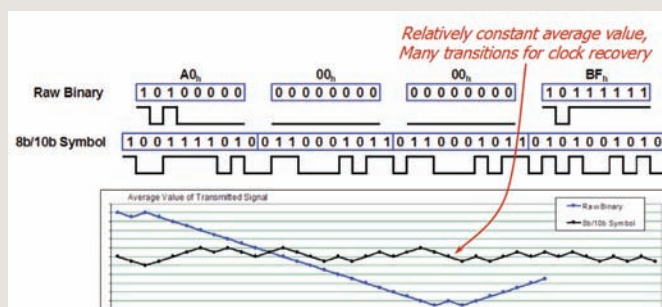

Figure 10. 8b/10b coding maintains DC level and ensures clock recovery.
8b/10b line coding will compensate these effects by mapping 8 bits of data to 10 bit symbols (or characters). Each 8 bit word corresponds to two 10b characters to ensure the long term ratio between 1's and 0's is nearly 50%. See Figure 10. The difference in numbers between 1's and 0's is called "running disparity" (RD) and it is either +1 or -1. Therefore the encoding of one 8 bit data word will change depending on the preceding symbol at the speed of the data rate. See Figure 11.